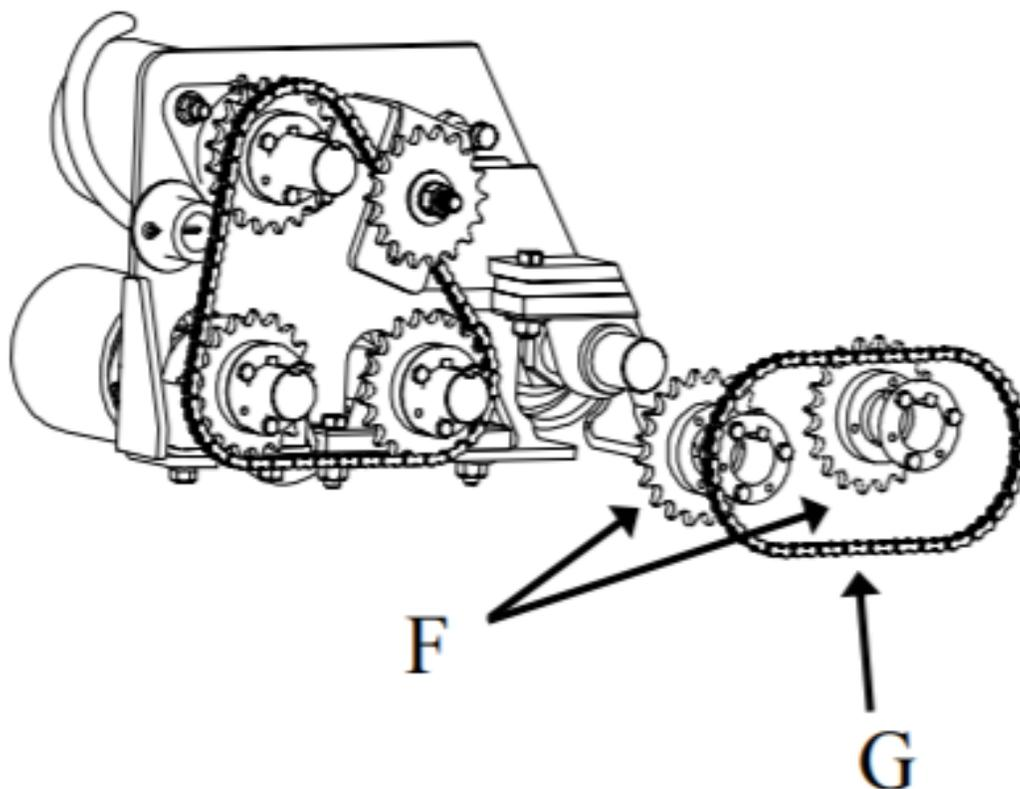

Figure 7-28: Installing Reverse Grabroll Kit (model 2500)
- 2. Attach sprockets (F), shown in figure 7-28, to shafts on grabrolls #4 and #5 on the right side of the machine, using the hubs provided.
- 3. Install drive chain (G) over sprockets.